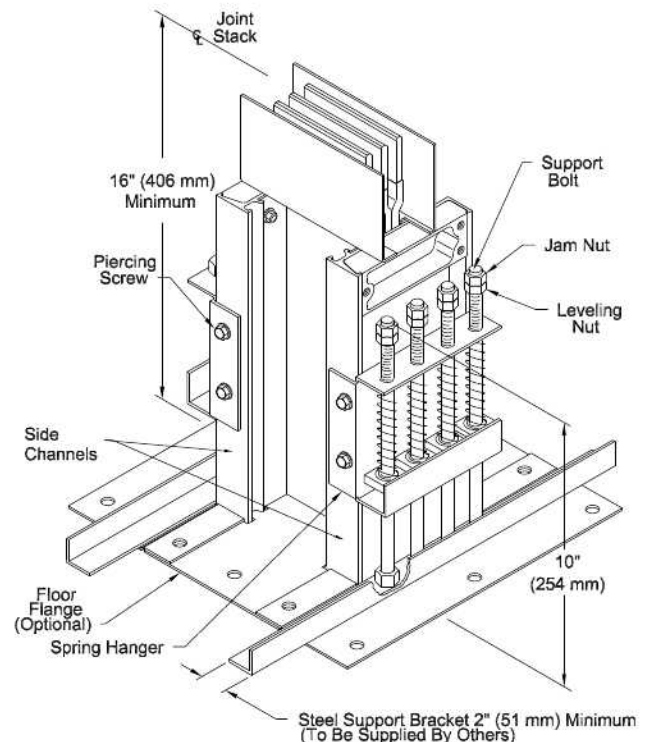

Figure 9.1 Spring Hanger (Installed Position)
8.5 Raise the leveling (lower) nuts until they contact the jam nuts. Tighten the two (2) nuts against each other (Figure 9.1 Installed Position).